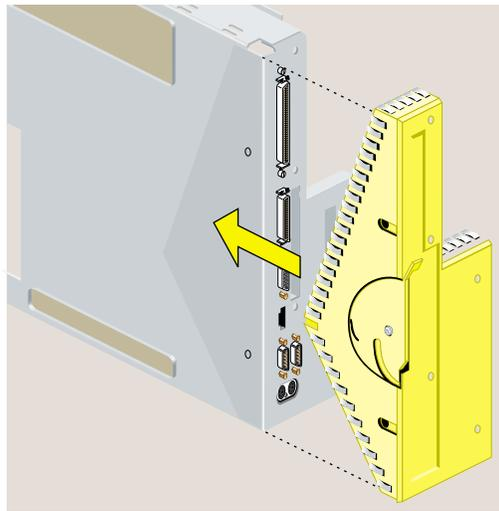

Figure 13 Replacing the Face Plate
18. Replace the faceplate by sliding it onto the system module, while at the same time lifting slightly at the “V” to snap it in place (Figure 13).